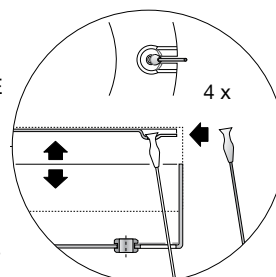

Figure 3: Steel Suspension Cables
6. Hook the ends of the 4 steel wires into the recesses of the mounting plate. [Figure 3]